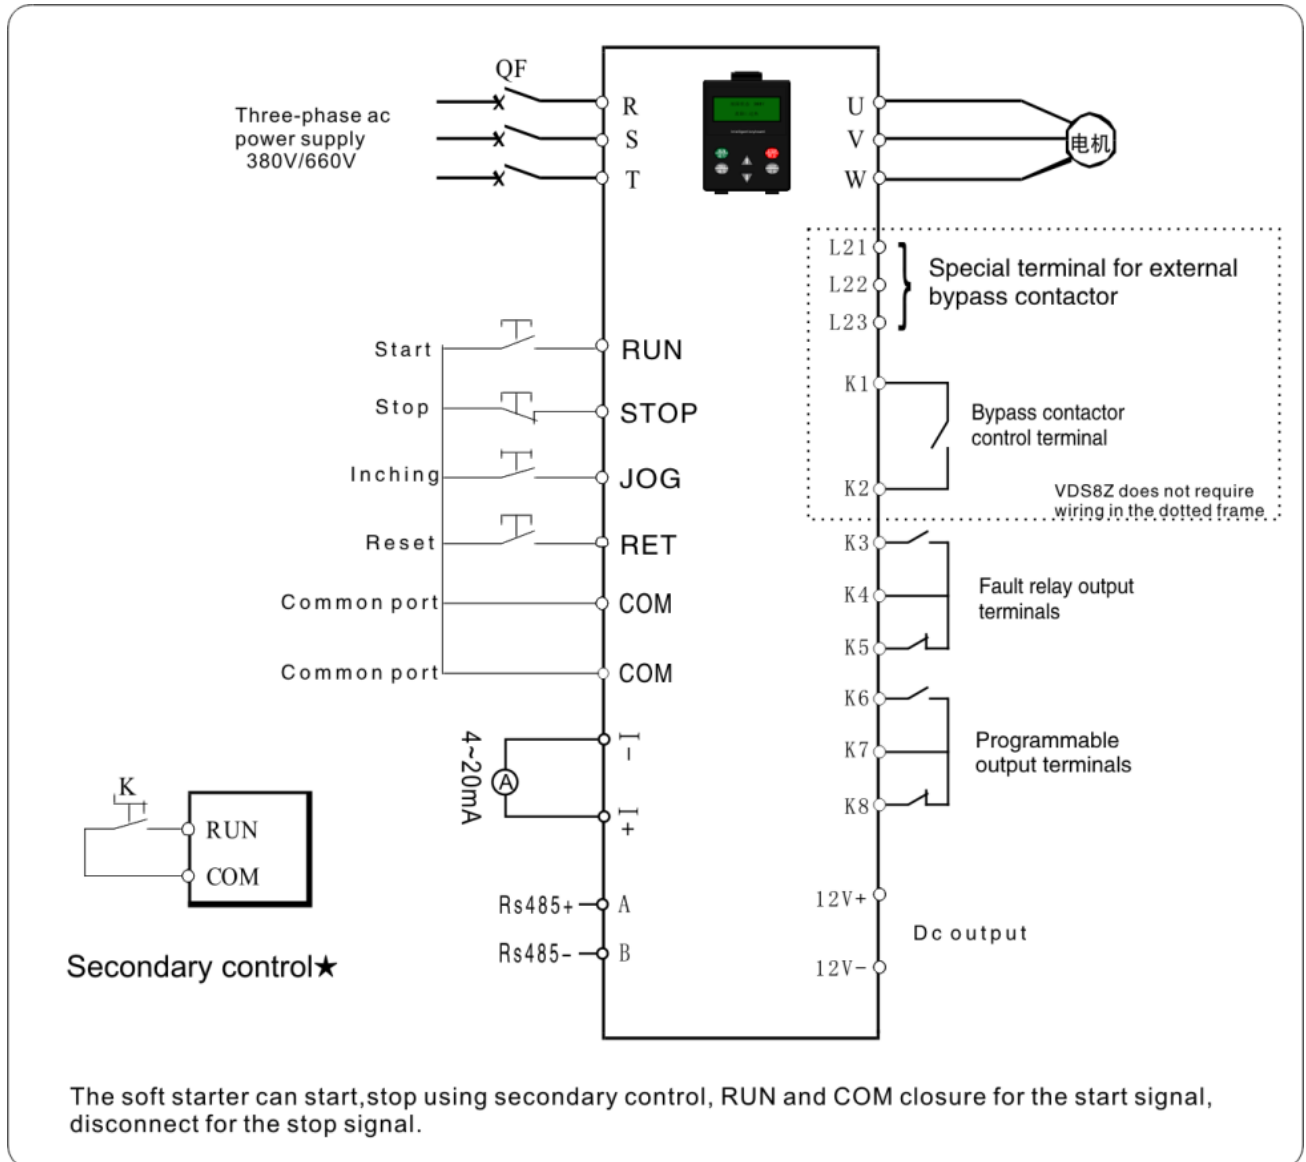
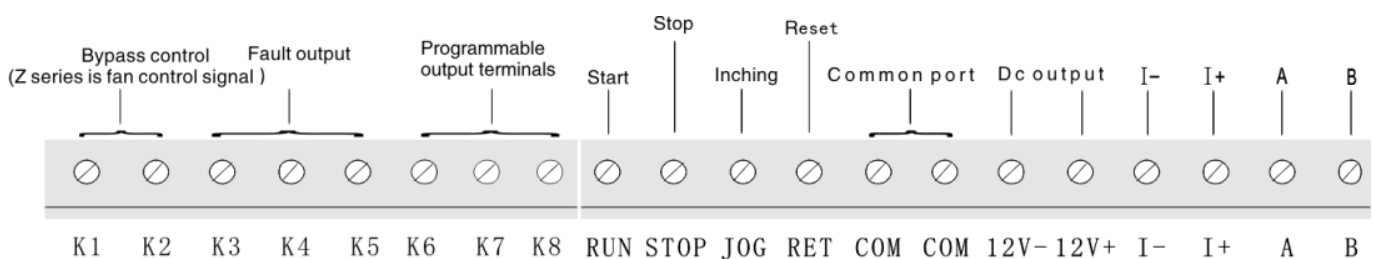

图5-1
图5-2
Fig. 5-1 and Fig. 5-2 are all external terminals of VDS8 series soft starters for users. Detailed functions are shown in Table 5-1 "Basic wiring diagram description".
★ ①There are two connection modes for external control start-stop signal. When using two-wire control, the STOP terminal is not connected; see basic wiring figure 5-1 for details.
②The setting of programmable output can be seen in detail: the relay function in the above table.